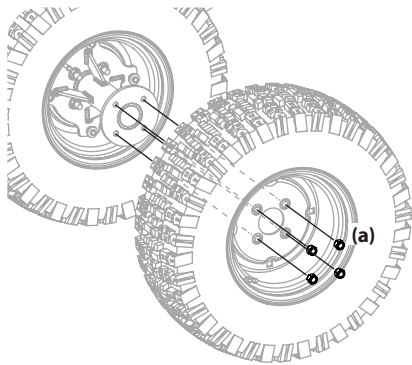

Figure 4-13
1. Remove the four outer lug nuts (a) to remove the outer wheel. See Figure 4-13.